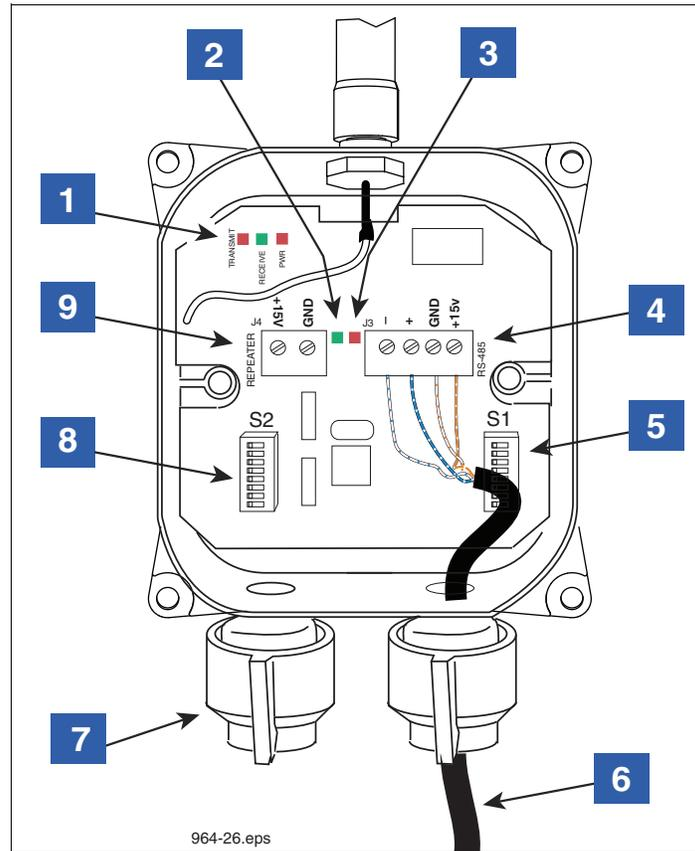

Figure 21. Wiring the Receiver
6. Note that there are two twisted pair color-coded wires in the cable (e.g., a white with blue stripe and blue with white stripe pair and a white with orange strip and orange with white stripe pair). One of the pairs is for RS-485 communication (- & + terminals) and the other pair is for Receiver power (+15 Vdc & Gnd). Using Figure 21 as a guide, attach the wires of the two twisted pairs to the RS-485 terminals.
8. If a Repeater is used and powered by the Receiver, push the two wire power cable (to Repeater) through the +15 Vdc cord grip of the Receiver (item 7 in Figure 21).
10. Attach the dc power cable (white to +15 Vdc and black to GND) to the Repeater terminal block (item 9 in Figure 21).
LEGEND FOR NUMBERED BOXES IN Figure 21
1. Use of a single repeater is optional but may improve system performance when installed correctly. The Repeater should be located closer to the device transmitters to rebroadcast messages to the Receiver. Use the 15 Vdc power source provided in the Receiver to power the Repeater, or use a customer supplied non-interruptible, Class 2, 15 Vdc power source. The most common method of powering the Repeater power is to use the Repeater power terminal block J4 in the Receiver (see item 9 in Figure 21).
9. The other end of the Repeater's dc power cable connects to the Receiver's +15 Vdc output terminal (ref. item 9 in Figure 21), or to a non-interruptible, Class 2, 15 Vdc power source.